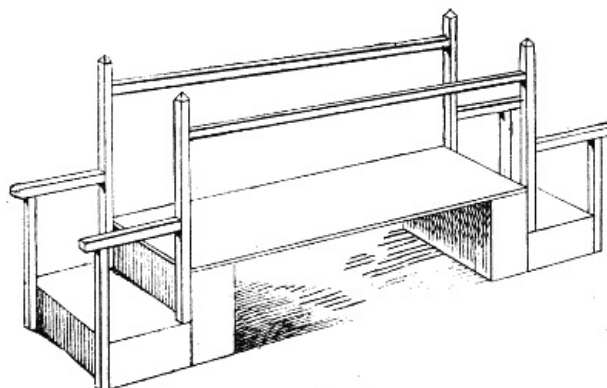

FIG. 29.
*A Step Bridge*, as shown in Fig. 29. This is a very pretty little model, and one quite delightful to make. For it we require four 1-3/4 in. or 2-1/4 in. match boxes, a piece of cardboard or veneer, and some match stales.